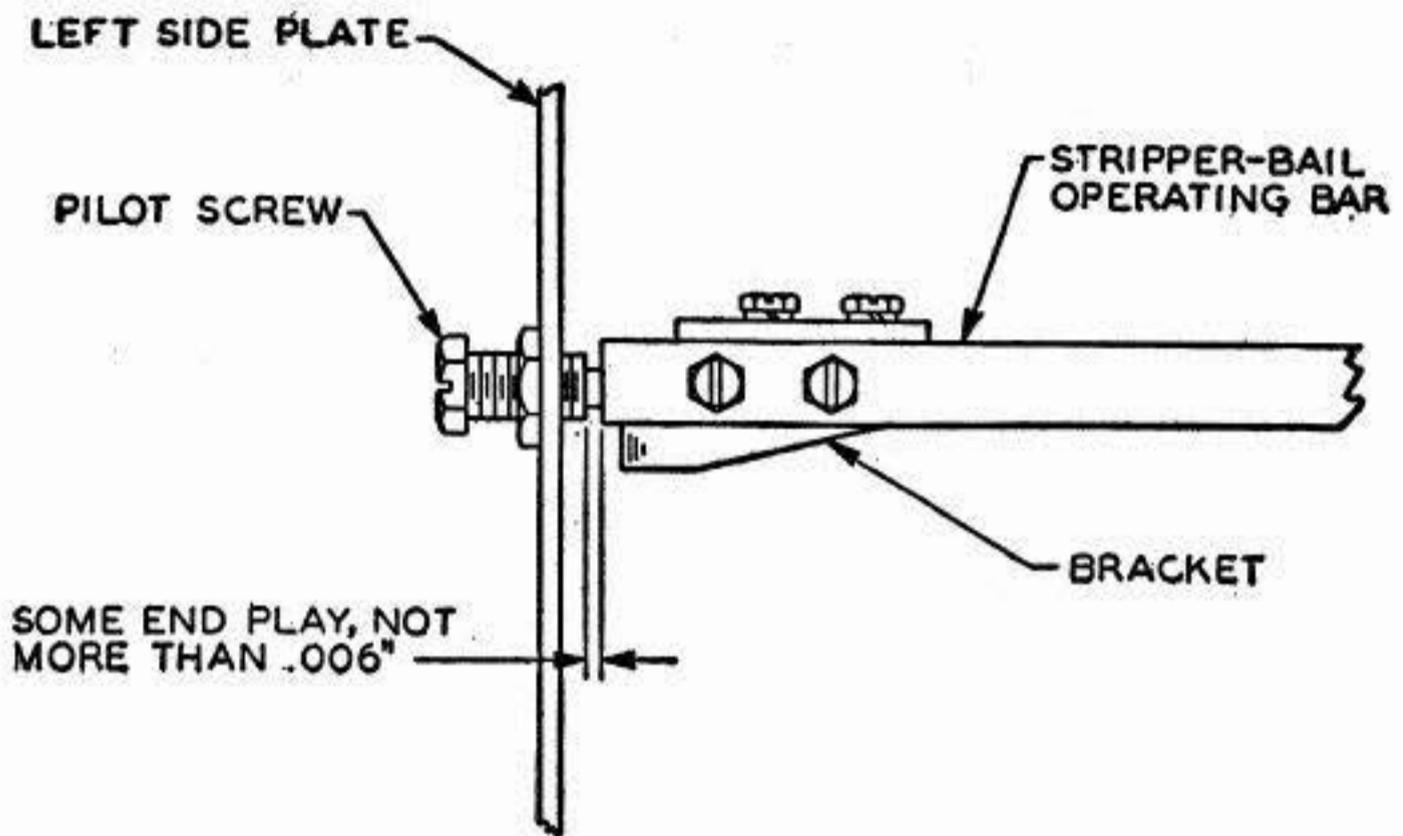

Fig 7
3.12 Stripper-Bail Operating-Bar: The stripper-bail operating-bar (located directly below vane No. 2) should have some endplay, not more than .006". **Fig 7**